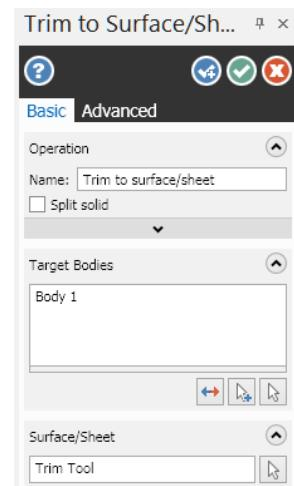

Fig. 22
Step 4. Click OK in Trim to Surface/Sheet function panel, Fig. 22.